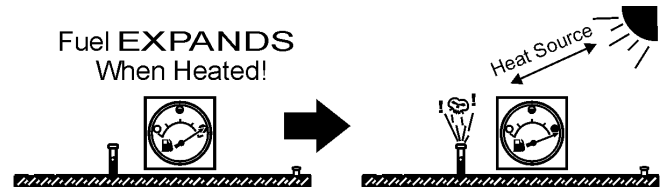

Figure 32. Fuel Expansion
**DO NOT OVERFILL** fuel system. Leave room for fuel expansion. Fuel expands when heated (Figure 32).